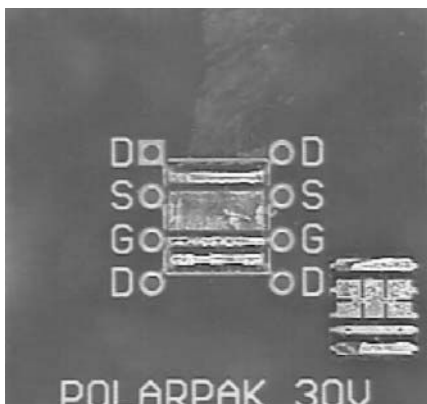

Fig. 7 - Removed Part and PCB
5. At the end of step 2 the solder under the part needs to be checked to see if it is soft enough so that the part can be lifted away. Figure 7 shows a removed part with the PCB.